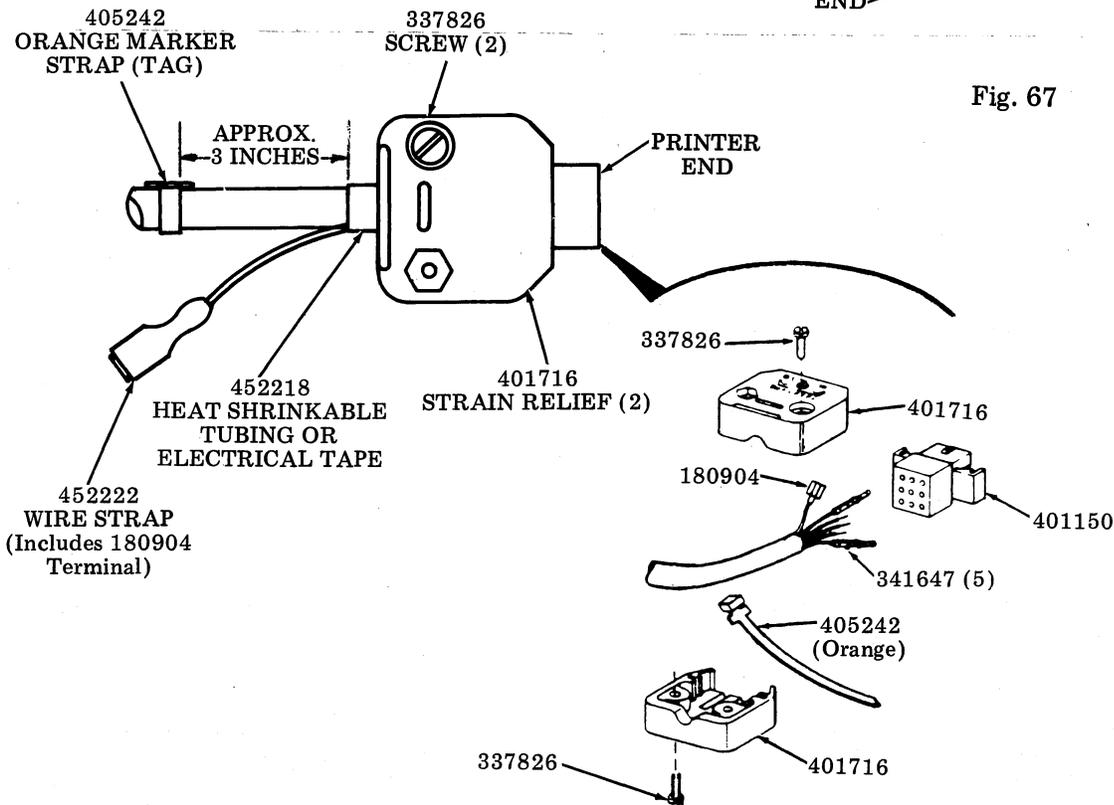

Fig. 68
- (b) Mark a 405242 tag (orange) and attach it approximately 3 inches from strain relief (as shown in Fig. 68). Proceed to 3.38.